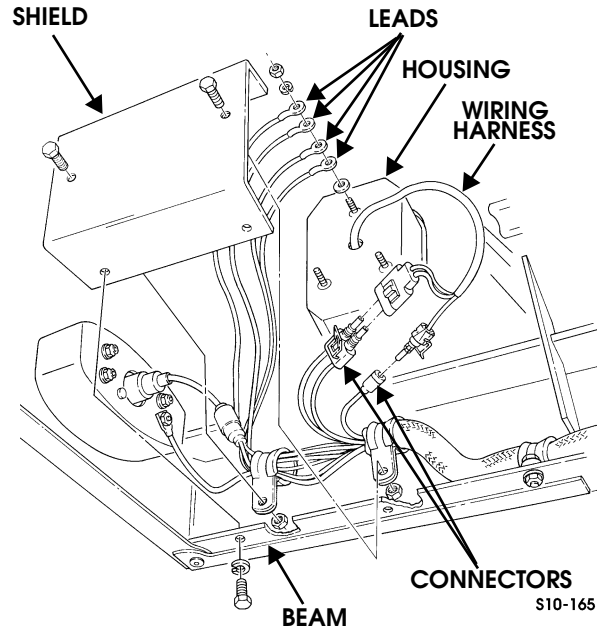

Figure 10-161: Shield and Wiring Location
4. Remove two nuts, clamps, and screws securing harness to shield (Figure 10-161).
2. Connect two connectors to wiring harness (Figure 10-161).